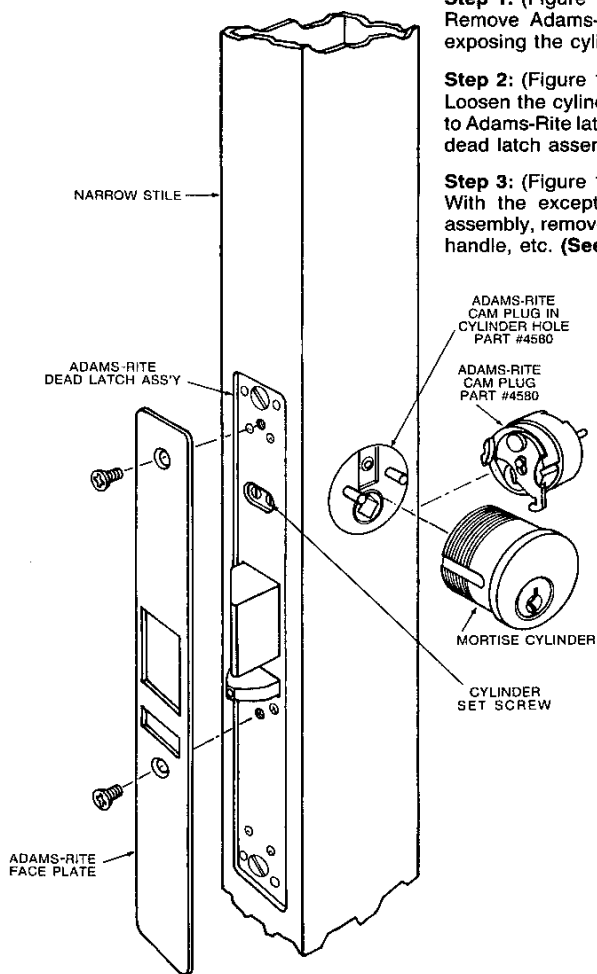

FIGURE 1
Step 1: (Figure 1)
Remove Adams-Rite face plate from edge of door exposing the cylinder set screws. (See Fig. 1)
Step 2: (Figure 1)
Loosen the cylinder set screw (securing key cylinder to Adams-Rite latch) and remove the cylinder from the dead latch assembly. (See Fig. 1)
Step 3: (Figure 1)
With the exception of the Adams-Rite dead latch assembly, remove all other hardware from door, knob, handle, etc. (See Fig. 1)